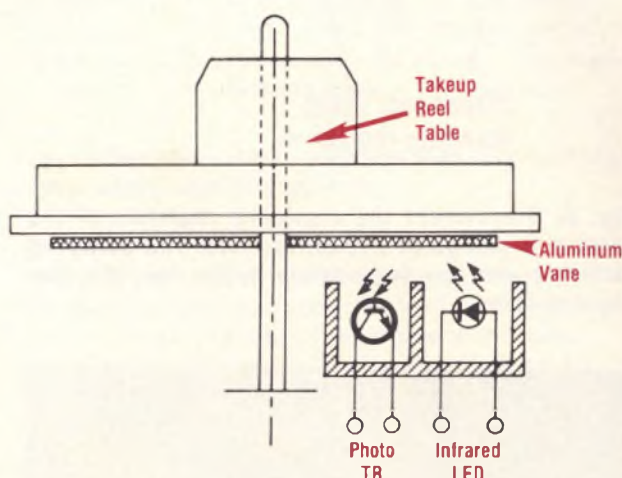

Fig. 2: In one type of reel sensor, the light beam from the LED to the phototransistor is alternately cut off as the reel rotates.
**Photocoupler** sensors are always used for the end sensors and sometimes for other actions such as takeup reel rotation. These sensors are really in two parts: the light source and the sensor itself. The light source may be either an incandescent lamp or a light emitting diode. The sensor consists of a holder containing a semiconductor substrate that is sensitive to light. When light strikes it, the resistance of the material goes down. The sensor then allows current to flow through it. When used to check for takeup reel rotation, an LED and the phototransistor are often contained in one case. Light from the LED shines on a disk of alternating dark and mirror services. When the reel turns, the light is alternately reflected or absorbed by the disk on the reel (see Figure 2).